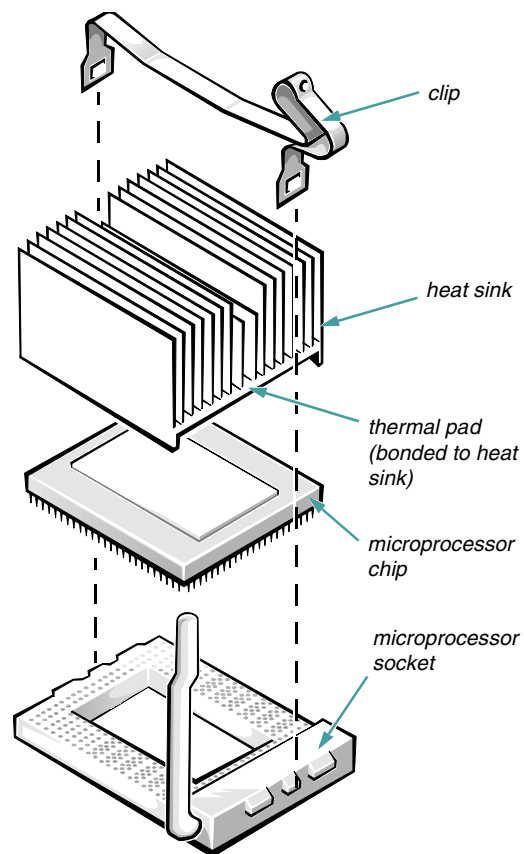

Figure 8-10. Installing the Heat Sink
8. Place the new heat sink (with its bonded thermal interface pad) on top of the microprocessor chip (see Figure 8-10).
Orient the clip as shown in Figure 8-10, and hook the unfolded end of the clip over the tab on the edge of the socket facing the front of the computer. Then press down on the folded end of the clip to snap the clip over the tab on the back of the socket.